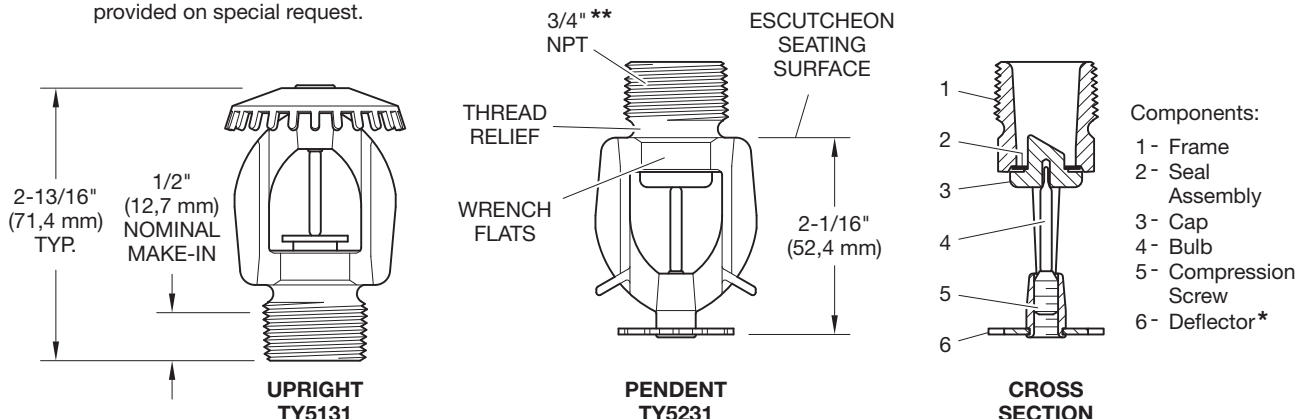

FIGURE 1
TYCO Series ELO-231FRB 11.2K Quick Response, Standard Coverage, Upright and Pendent Sprinklers (Ref. Figure 1) are automatic sprinklers of the frangible bulb type. They are quick response spray sprinklers that produce a hemispherical water distribution pattern below the deflector.
Step 3. Tighten the sprinkler into the sprinkler fitting using only the W-Type 3 Sprinkler Wrench (Ref. Figure 2). With reference to Figure 1, the W-Type 3 Sprinkler Wrench is to be applied to the wrench flats.